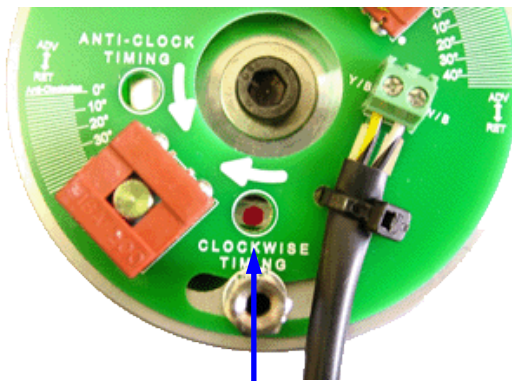
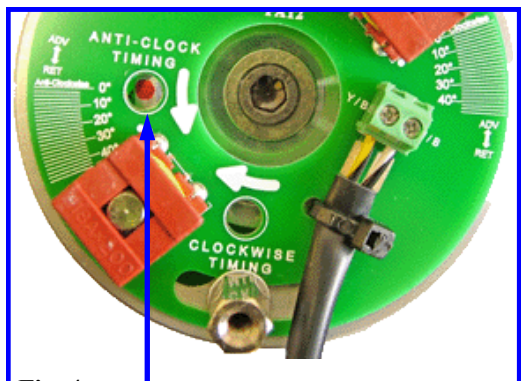

Fig. 3
Fig. 4
12. Check that the engine is still at the correct full advance position, then adjust the magnetic rotor position so that one of the red marks is centrally behind the static timing hole at 9 o'clock (see fig. 4, page 7). If your machine's camshaft rotates clockwise, refer to fig. 3. Gently tap the rotor into the taper & tighten the centre bolt, using a 3/16" allen key.